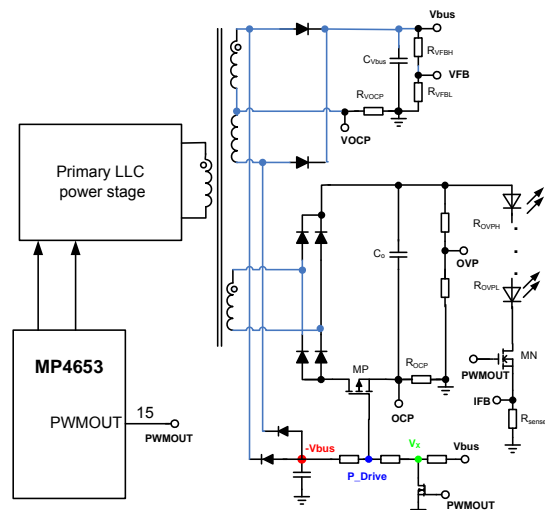
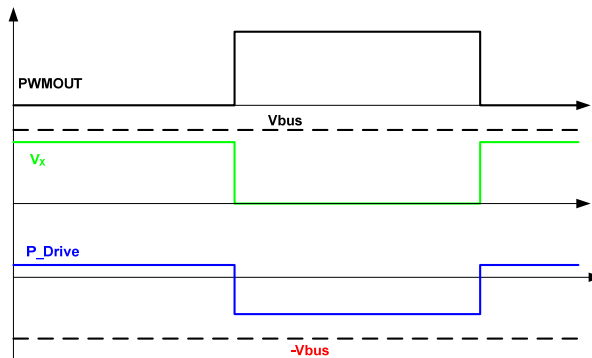

Figure 5A—PWMOUT for the P\_MOS Driver
Figure 5B—Scheme of the PWMOUT Driving the P\_MOS
The PWMOUT signal is also used to control the external P-MOS (MP) for protection, as shown in figure 5A. Figure 5B shows the operating scheme of this driving circuit. A negative voltage source ( $-V_{bus}$ ) is generated from the secondary winding of DC bus stage. A pulse waveform at “ $V_x$ ” is generated through the PWMOUT signal. By summing the negative voltage source and  $V_x$ , a pulse waveform with a negative magnitude is generated on “P\_Drive” (the P-MOS gate) and is used to drive the P-MOS.